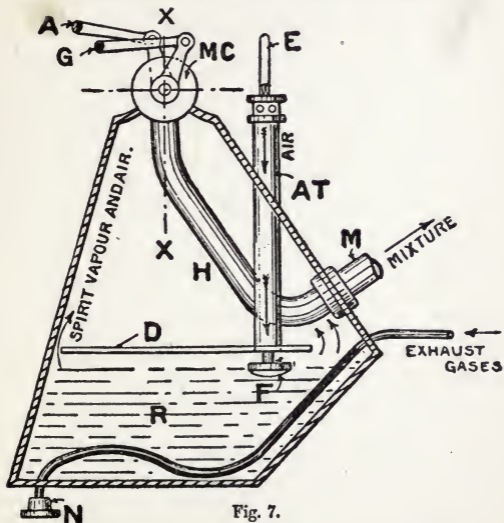

Fig. 7.
14. Surface Carburettors.—The carburettors that were first generally adopted, and are still used on some motor cycles, were of the surface type, an example of which, of the pattern used on motor tricycles,² namely the De Dion, is shown in Fig. 7. Outwardly it consists of a triangular brass or copper box, shaped to fit between the tricycle frame tubes and the rider's seat. In the figure, one side has been removed to show the arrangement of the interior; a plate D, fixed to the air-tube or chimney AT, divides the whole box into two parts, the lower forming a reservoir for the gasolene, a further quantity of which is generally carried in a cylin-
the plate D during the suction stroke of the engine,¹ so that it may be diffused in the gasolene vapor, as explained, and be drawn through the twin tap MC, which is arranged to admit an adjustable quantity of additional air to form a suitable mixture to enter the cylinder through the pipe M. A bent pipe, LN, from the engine exhaust passes through the lower part of the reservoir to warm the gasolene, and to accelerate its vaporation, as evaporation of the spirit lowers its temperature. F is a float fixed to a wire EF, which passes through the air-tube AT, the length of the wire at E projecting above AT indicating the level of the gasolene in the reservoir. The most interesting and important feature of this type is the *twin tap* MC, shown in detail in Figs. 8, 9, and 10, the Fig. 8 showing a section on line XX (Fig. 7), and Figs. 9 and 10 being sections taken through the lines DD and EE (Fig. 8) respectively. These show how the *air* lever A is connected to a hollow cylindrical part, a half of it, MON, being made of wire gauze, in such a way that a movement of lever A controls the quantity of rich mixture entering below at K from the chamber H, and the amount of auxiliary air passing in from above at J, the two streams mixing in the chamber P to form the perfected mixture, which passes into the pipe M on its way to the cylinder. A movement of the lever A (Fig. 10) to the right increasing the opening for air, and decreasing the opening VN for the rich mixture, so that the quality of the mixture can be regulated when starting to give the best results for the gasolene used, and the temperature, pressure, and condition of the atmosphere.